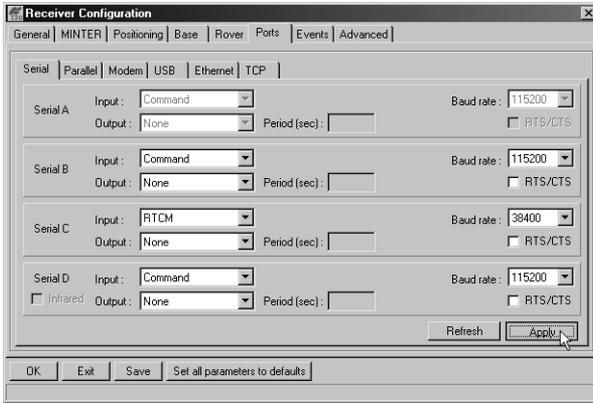

Figure 3-18. Rover Configuration – Ports
6. Select the **Ports** tab and set the following parameters for Serial C (Figure 3-18 on page 3-25):